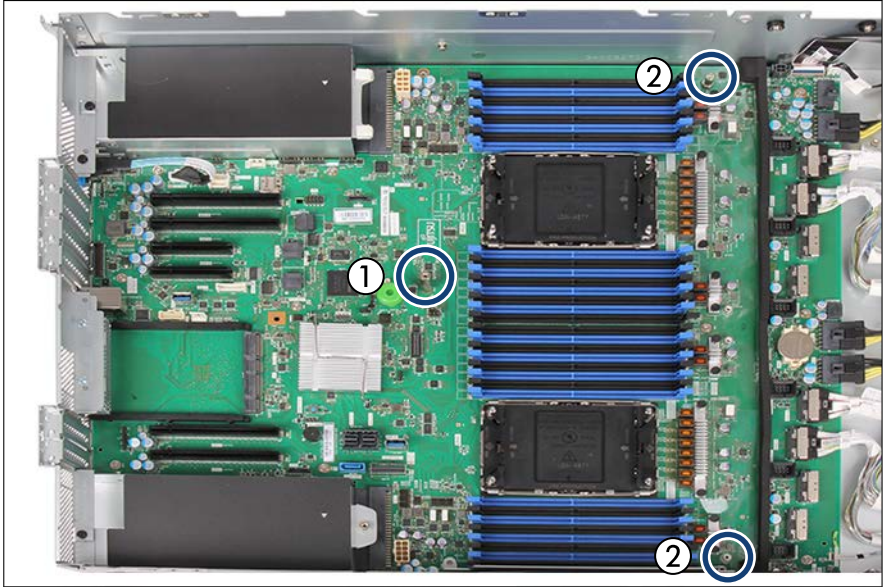

Figure 344: Position of the hexagon standoff and the specific screws
- ▶ Fasten the system board with the hexagon standoff, see Figure 344.